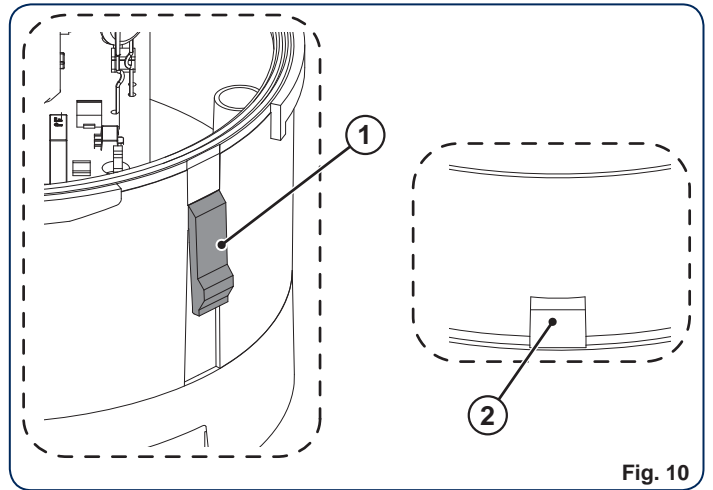

Fig. 10
On the base of the cover there is a locking tab (Fig. 10 ref. ①) which must couple with the opening made in the cover (Fig. 10 ref. ②).